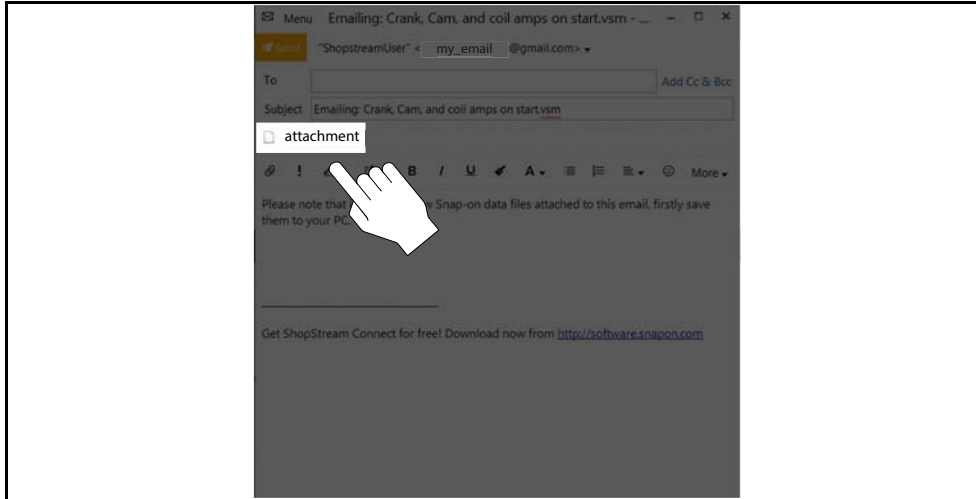

Figure 12-4
3. A new e-mail message window will display onscreen (*Figure 12-4*).